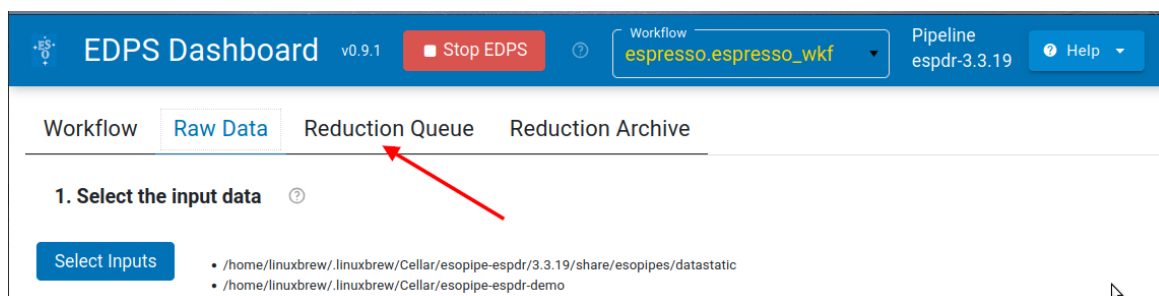

Figure 9: How to select Reduction Queue tab.
- Press the ‘Reduction Queue’ tab (Figure 9).